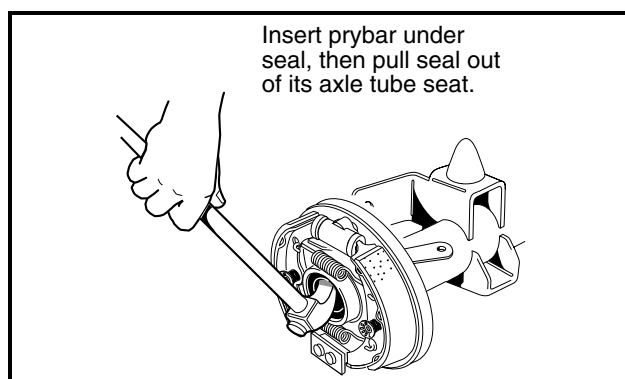

Figure 16a-8 Seal Lip
9. Use a 16 inch (40 cm) rolling head prybar to remove the oil seal (**Figure 16a-7, Page 16a-6**). Insert the prybar under the inside lip of the seal and pull the oil seal out (**Figure 16a-8, Page 16a-6**). Discard the oil seal. **See following CAUTION.**
1. Slip the bearing (88) off of the machined journal and over the outside splined end of the axle (**Figure 16a-9, Page 16a-8**).